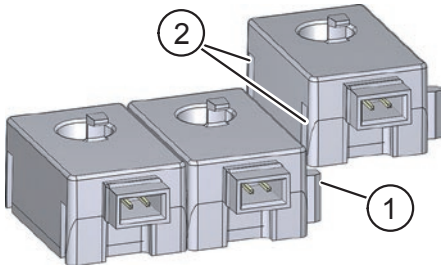

Fig. 2: Link current sensors
- ▶ Link the current sensors to one another by sliding the grooves (item 2 in Fig. 2) onto the tongues (item 1 in Fig. 2).